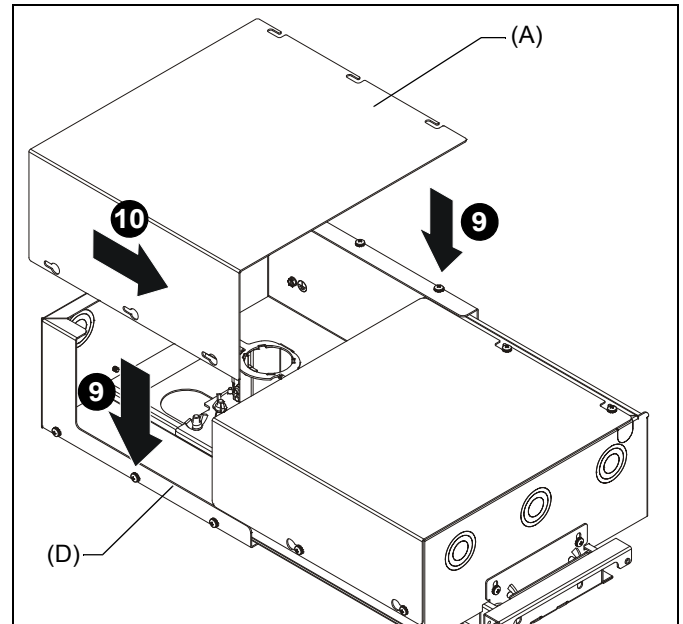

Figure 7
9. Lower cover-left (A) over box body-left (D) and place over Phillips screws fastened into box body lower and upper edges. (See Figure 7)
10. Slide cover to securely fasten over Phillips screws. (See Figure 7)